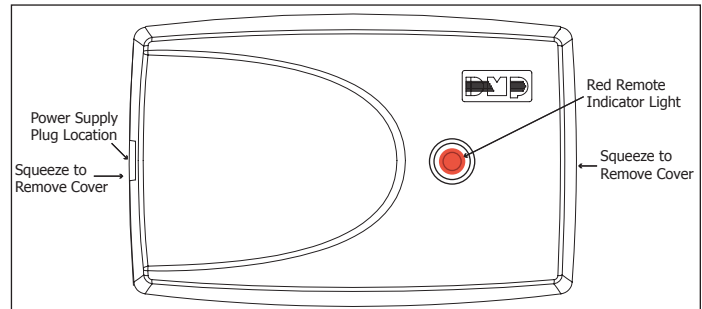

Figure 1: 1118 Panic Output
1. Squeeze the cover left and right sides together to remove. See Figure 1.
1. Squeeze the left and right cover sides together to remove. See Figure 1.